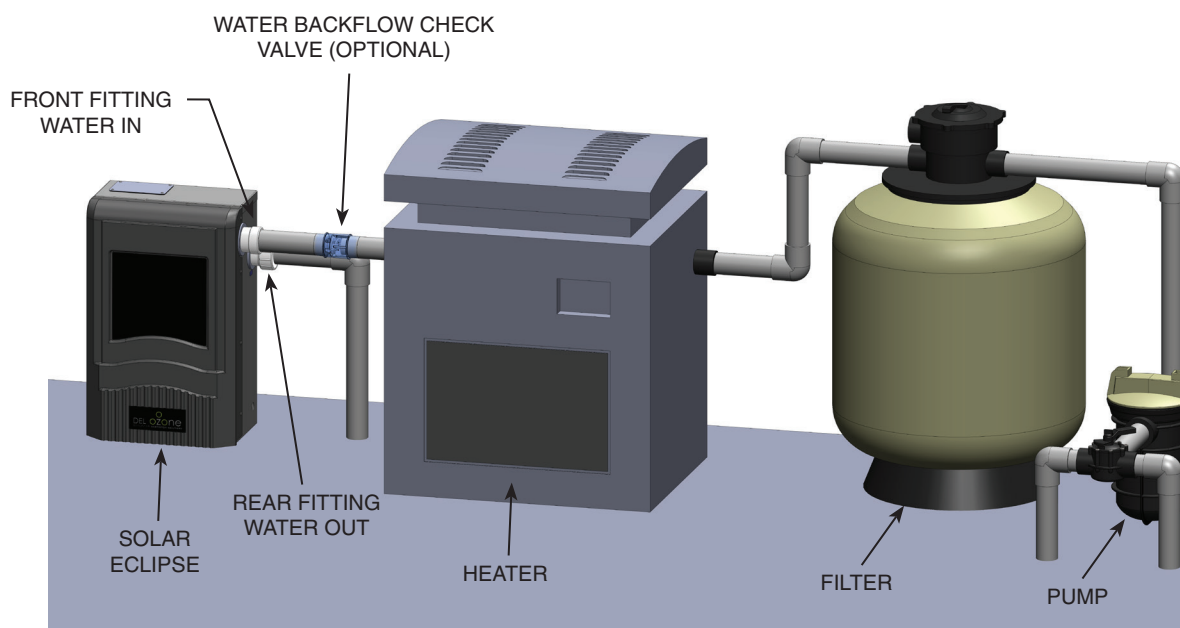

Figure 3: Solar Eclipse Location in Pool Loop
- Install at least 5 feet (1.5 meters) from wall of pool. Install ozone generator no less than one (1) foot above maximum water level to prevent water from contacting electrical equipment. Install in accordance with the installation instructions.
- The Solar Eclipse must be installed in an outdoor location, or indoors in a forced air ventilated room, and installed so that the orientation is exactly as shown in Figure 3. Install to provide water drainage of generator to protect electrical components.
The Solar Eclipse must be installed in the pool's main return line after all other pool equipment (pump, filter, heater, and cleaner). Figure 3 shows the most basic installation. For installation with additional sanitizers and pool cleaners contact DEL Technical Support (see Section 6A).
The Solar Eclipse will come with one half of a union fitting installed on Inlet and Outlet, the other half of the fittings will be located in the Solar Eclipse parts bag. Use the union fittings provided to connect the Solar Eclipse inlet and outlet to your pool's plumbing as shown above in Figure 3.